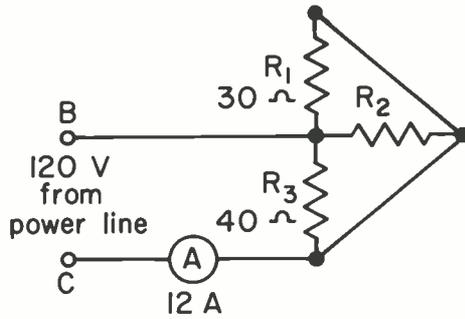
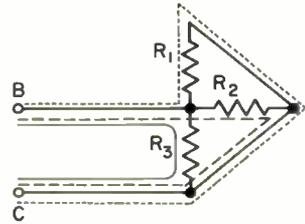

Fig. 11
Fig. 14
- 12 2. The three resistors in Fig. 11 are in (*parallel*) (*series*). Note: They are in parallel if—and *only* if—you can take each resistor in turn, trace through that resistor starting at point *B*, and return to point *C* without passing through either of the other two resistors.
3. The resistance of R_2 in Fig. 11 is _____ ohms.
2. parallel . . . Each of the three paths in Fig. 11 passes through one and only one resistor. See Fig. 14.